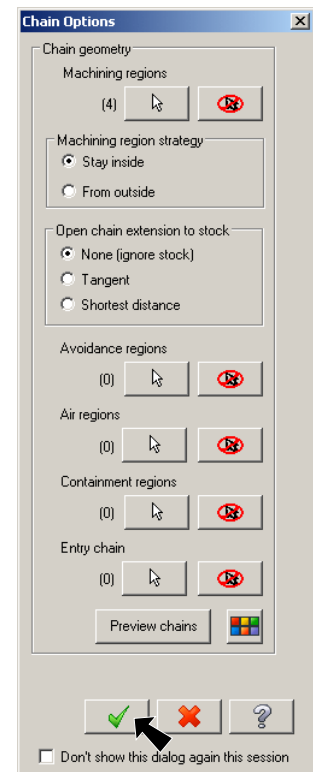

Fig. 44
Step 6. Click OK  in the Chain Options box, **Fig. 44**.